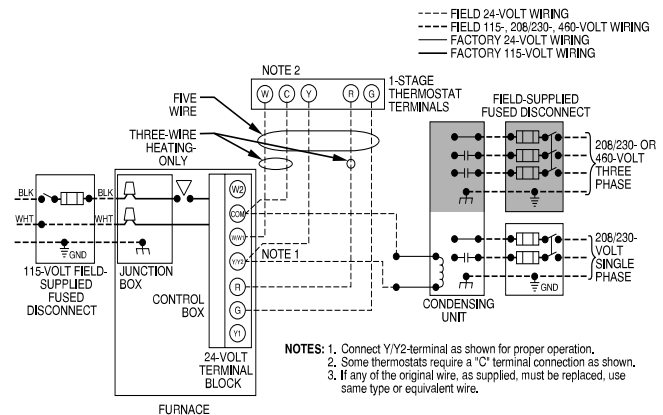

Fig. 33 – Typical Field Wiring Diagram
See Fig. 33 for field wiring diagram showing typical field 115-V wiring. Check all factory and field electrical connections for tightness.
6. Connect power cord power and neutral leads to furnace power leads as shown in Fig. 33.